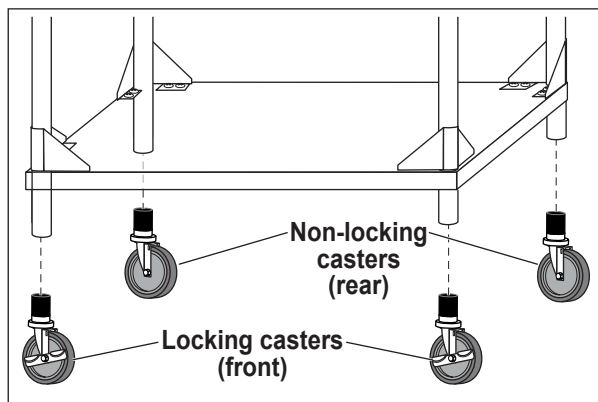

Figure 2
4. Install the two (2) front locking casters into the short end of the leg assembly (Fig. 2).
5. Install the rear non-locking casters into the remaining two (2) leg assemblies.